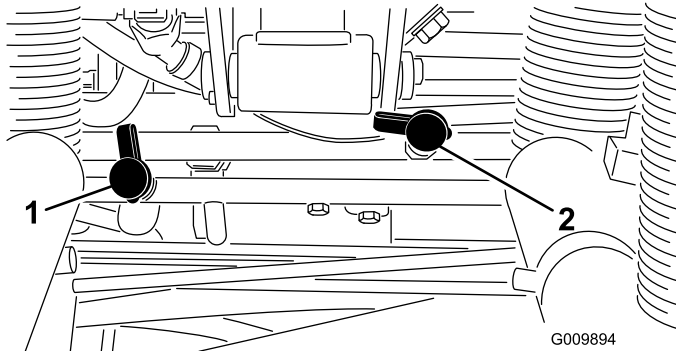

Figure 62
- Use Test Port #1 (Figure 62) to measure forward traction pressure.
- Use Test Port #2 (Figure 62) to measure reverse traction pressure.